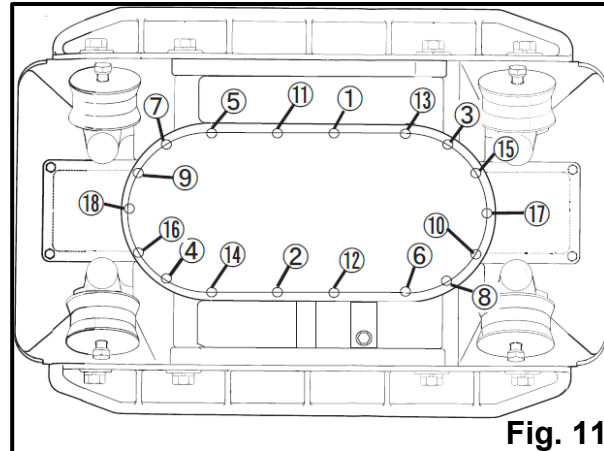

Fig. 11
- 4) Apply Loctite #243 to the 18 screws for the cover and install screws. Torque to (25 ft-lb) in a crisscross pattern, (Fig. 11).